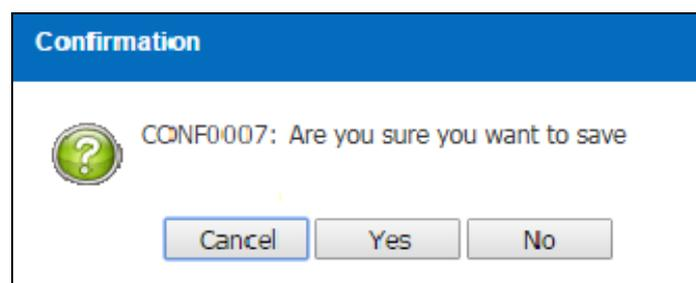

Figure 3.5.1-10 Confirmation Message
- System will display a Confirmation Message as Figure 3.5.1-10
- Click on the  button to save the record and the record will updated in the Vote Activity screen as Figure 3.5.1-11